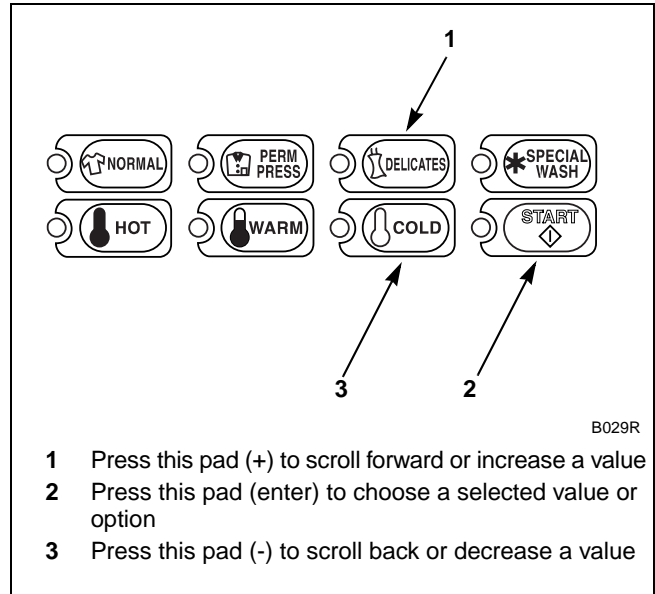

Figure 134
- Press the DELICATES (+) or the COLD (-) keypad to increase or decrease the current number of minutes displayed in the VFD to the desired number of minutes. Refer to *Figure 134*.
**NOTE: The Normal Rinse #1 Fill/Tumble Time can be set from zero (0) to 15 minutes.**